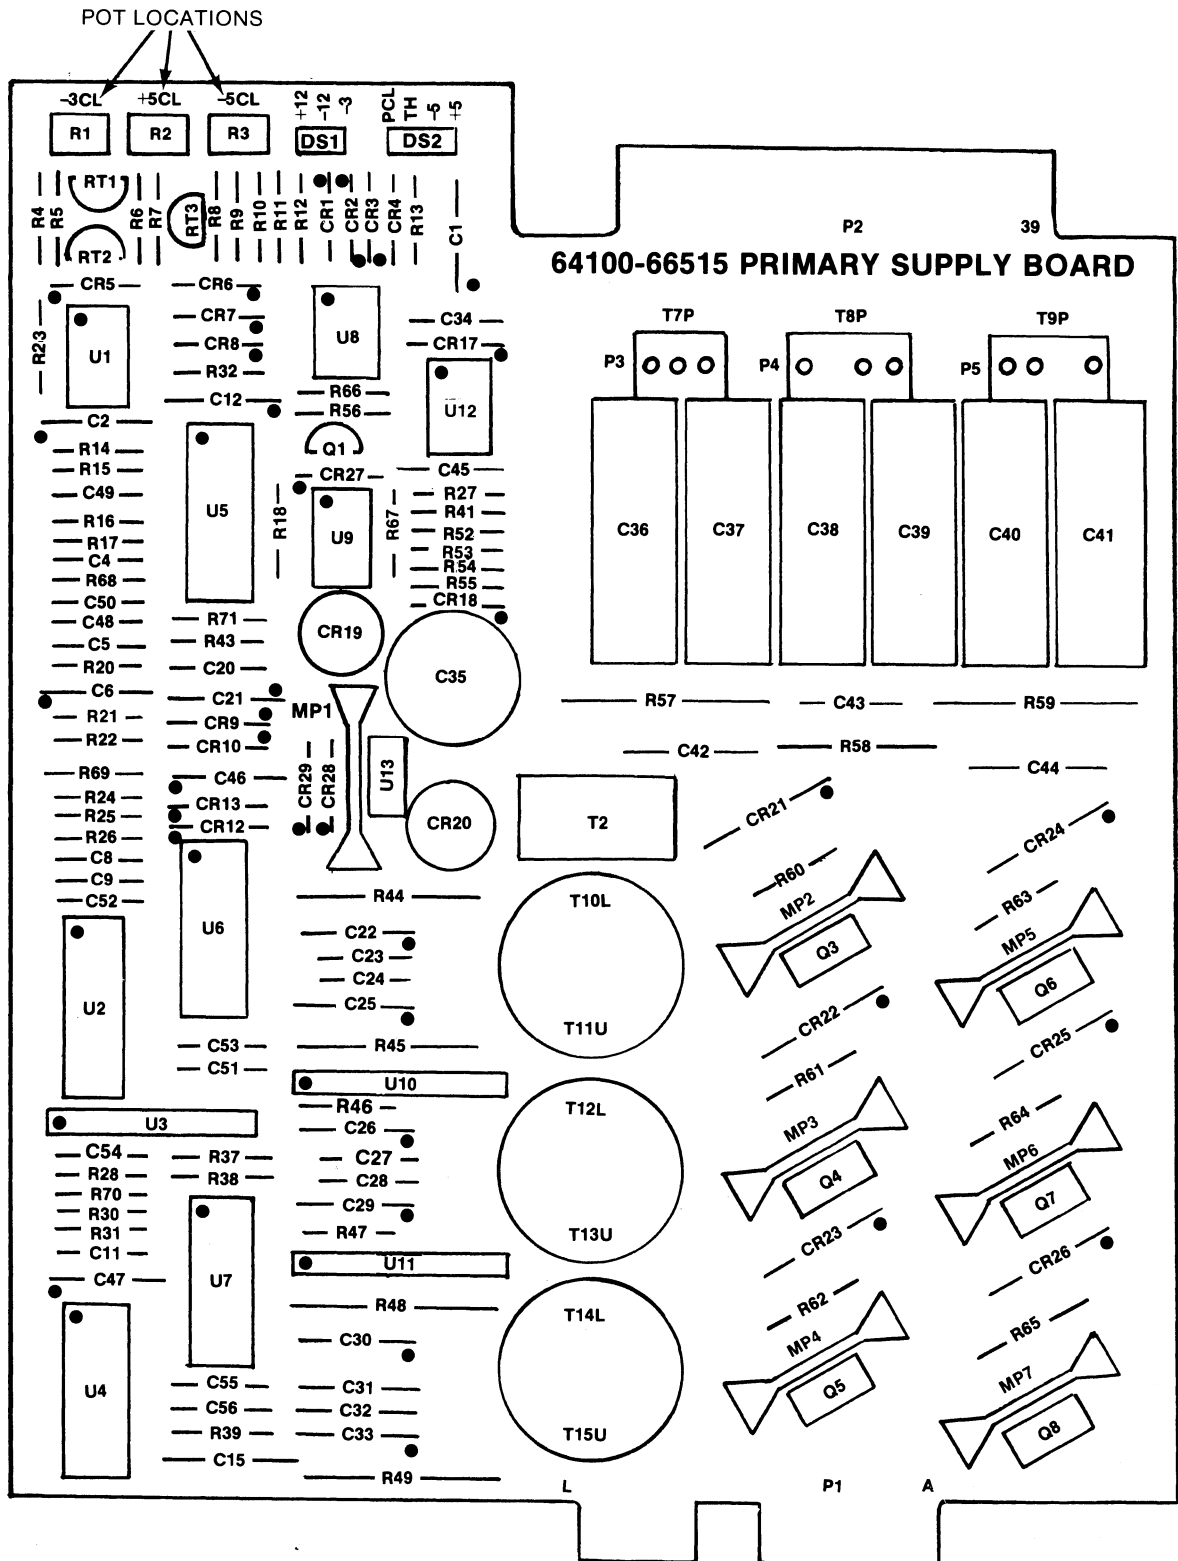

Figure 5-2. Current Limit Pot Locations
- e. Locate the +5V current limit (+5CL) pot R2 as shown in Figure 5-2.